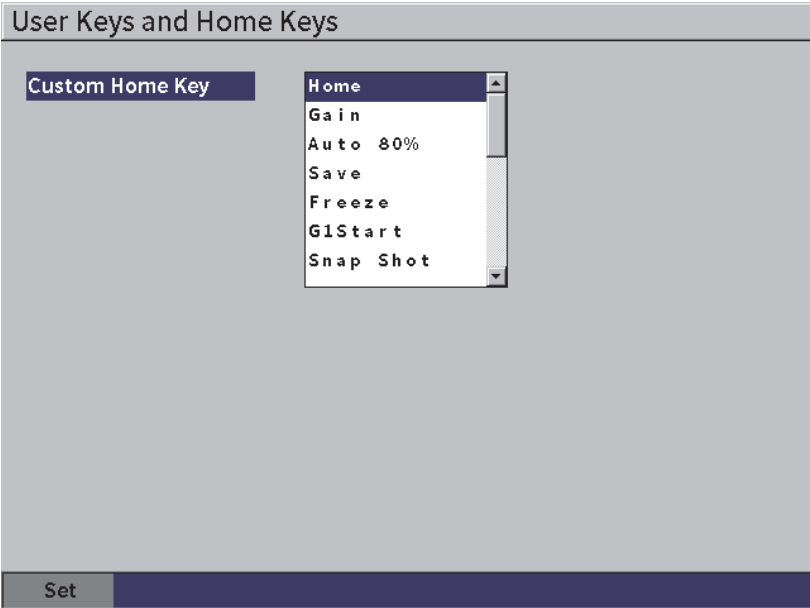

Figure 5-5 Custom User Key setup page
You can change the action of the Shift, Tab key sequence in the **User Keys and Home Keys** setup page (see Figure 5-5 on page 59).
1. Open the **User Keys and Home Keys** setup page (see Figure 5-5 on page 59).